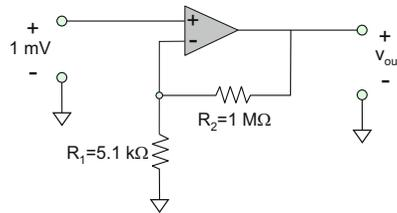

Fig. 5.10. A non-inverting amplifier circuit with an input voltage of 1 mV.
**Exercise 5.4:** Solve the circuit shown in Fig. 5.10, i.e., find the output voltage  $v_{out}$  with respect to common.